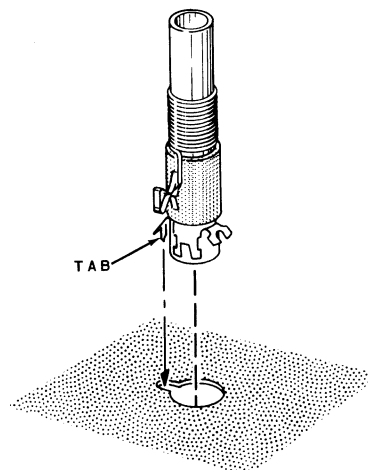

Figure 2
- ( ) Install the RF coil (#40-602) at L1 as shown in Figure 2. Press the coil into the hole until both catches snap to lock the coil to the chassis.